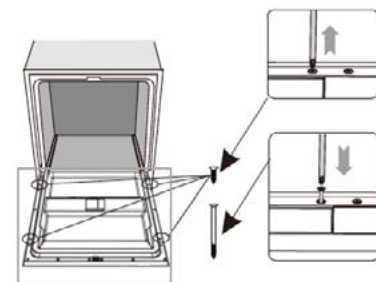

Figure 20
- Fasten the dishwasher panel onto the outer door with the correct screws and bolts (see Figure 20).